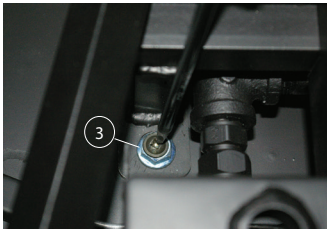
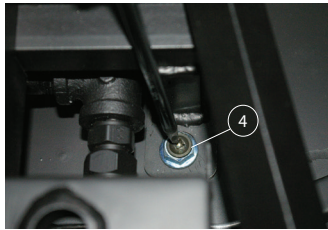

Figure 20a. (LH Base mounting machine screw).
Figure 20b. (RH Base mounting machine screw).
**Step 3 & 4** Remove the two (2) (RH & LH) Base mounting machine screws, **Figure 20a & 20b. (Philips head screwdriver required).**
**Step 3 & 4. Figure 20a. (LH Base mounting machine screw). Figure 20b. (RH Base mounting machine screw).**